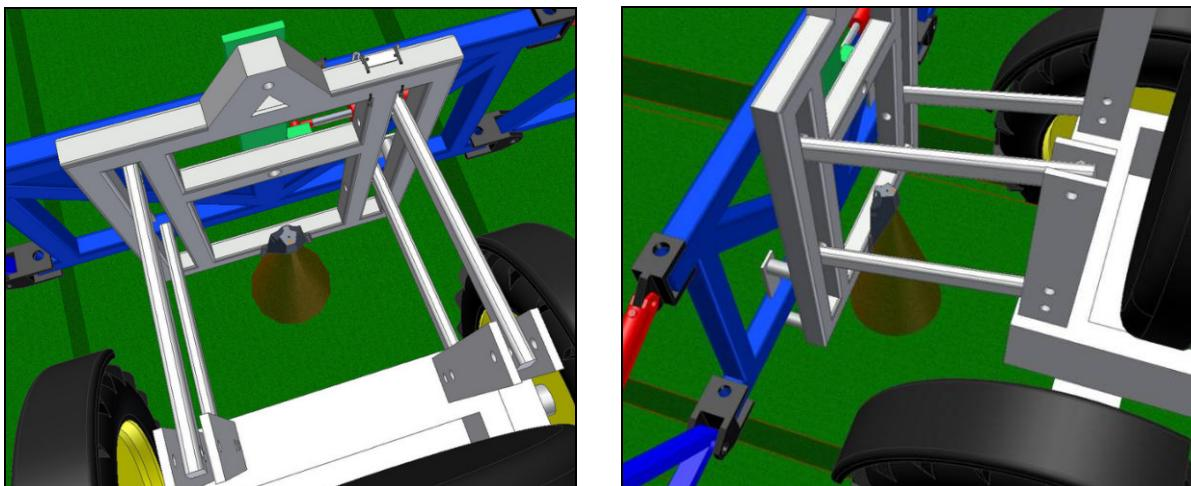

Figure 17: Example Mounting of the Main Lift Bracket
2. There are a variety of ways to mount the main lift bracket on most sprayers. The bracket should position the sensor approximately in the center of the sprayer, forward of the boom. An example of this mounting is illustrated in **Figure 17**.